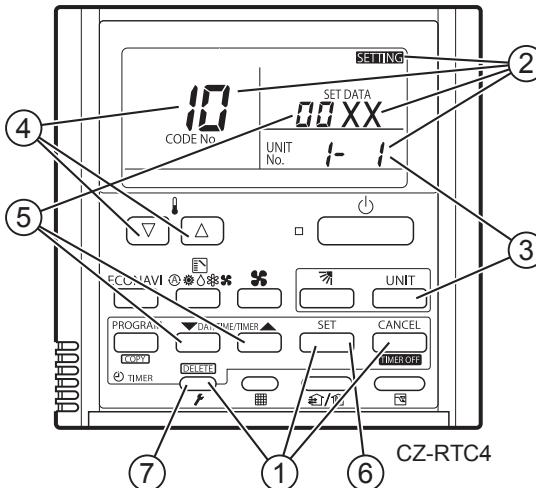

Fig. 5
- ① Press and hold the , and buttons simultaneously for 4 seconds or longer.
- ② "SETTING", unit No. "I- I", item code "10", and settings data "00 XX" are displayed blinking on the remote controller LCD display (Fig. 5). At this time, the indoor unit fan begins operating.
- ③ If group control is in effect, press the button and select the address (unit No.) of the indoor unit to set. At this time, the fan at the indoor unit begins operating.
- ④ Press the temperature setting / buttons to select the item code to change.
- ⑤ Press the timer time / buttons to select the desired setting data.
- ⑥ Press the button. (The display stops blinking and remains lit, and setting is completed.)
- ⑦ Press the button to return to normal remote controller display.